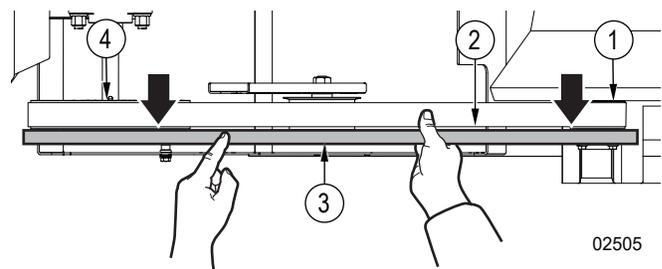

Figure 44—Check the drive belt alignment
1. Put a straight-edge tool across the face of the conveyor sheave. Point the opposite end of the straight-edge toward the engine clutch flywheel. Make sure that the straight-edge is parallel with the face of the conveyor sheave. See *Figure 44*.
- If the edge of the engine clutch flywheel aligns with the straight-edge, the drive belt is aligned. The following steps are not necessary. See *Figure 44*.